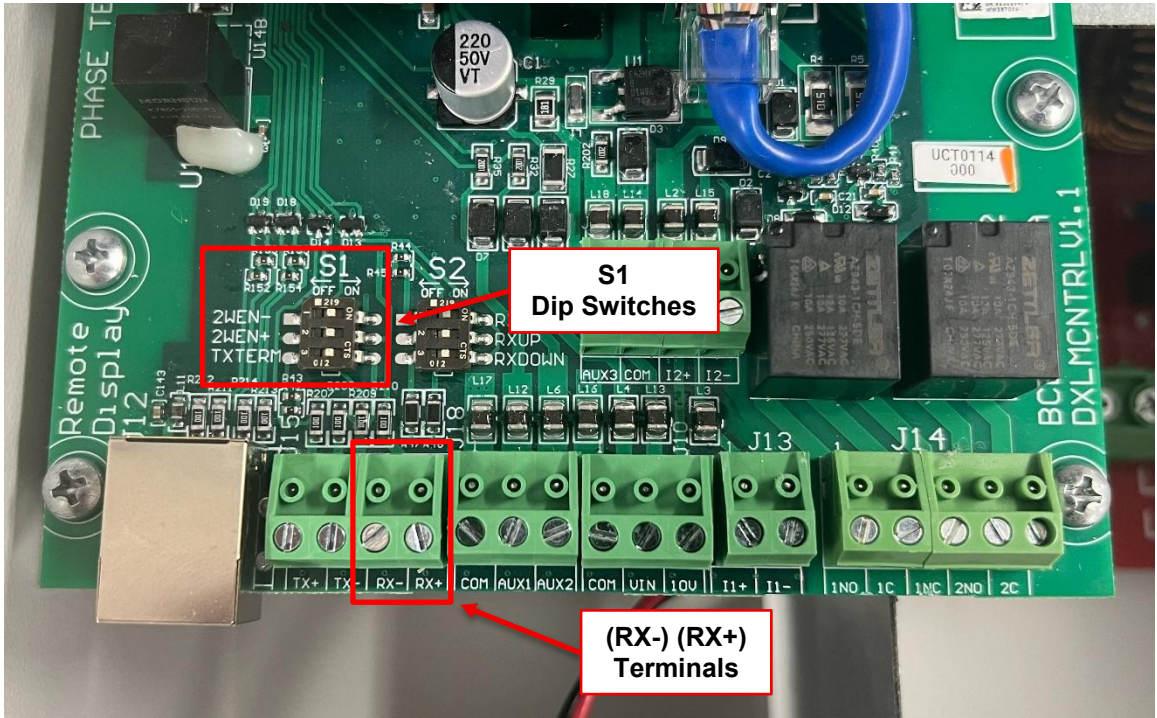

Figure 17 – Control Board Wiring Modbus
- Locate the **S1 switch** on the drive's control board (refer to **Figure 17**).